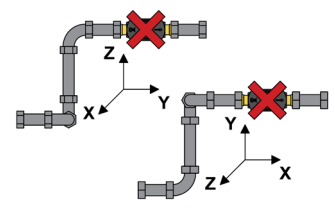

Fig.4
4. Do not place the flow sensor immediately after a double curve oriented on two different planes (Fig.4);